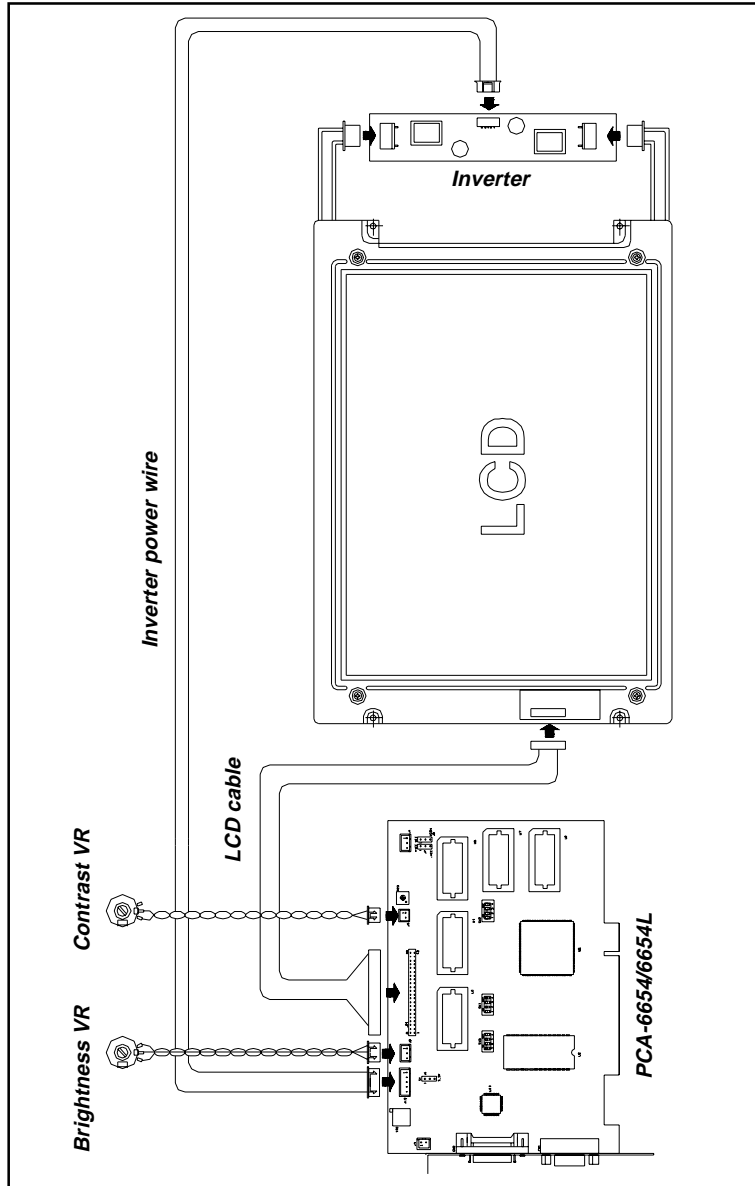

Figure 2-5: MONO LCD setup
13. Connect the LCD cable, inverter, inverter power wire, and VR assembly. The VR assembly with wire for brightness control should be connected to J9, and the wire for contrast control should be connected to J5. (See Fig. 2-5.)